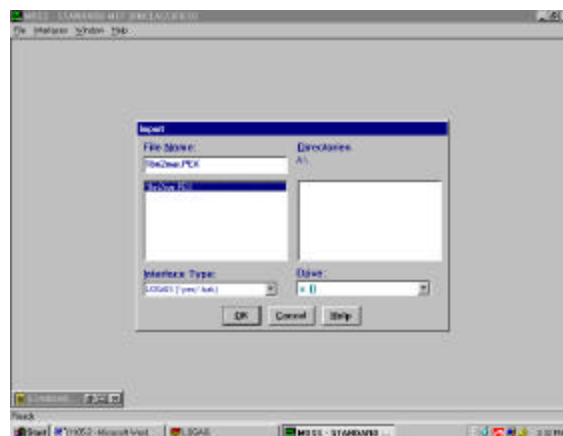

Figure 1
STEP 4. Click on the 1BN2NDMAR.pex file, the file should next appear in the file name box (see figure 1).